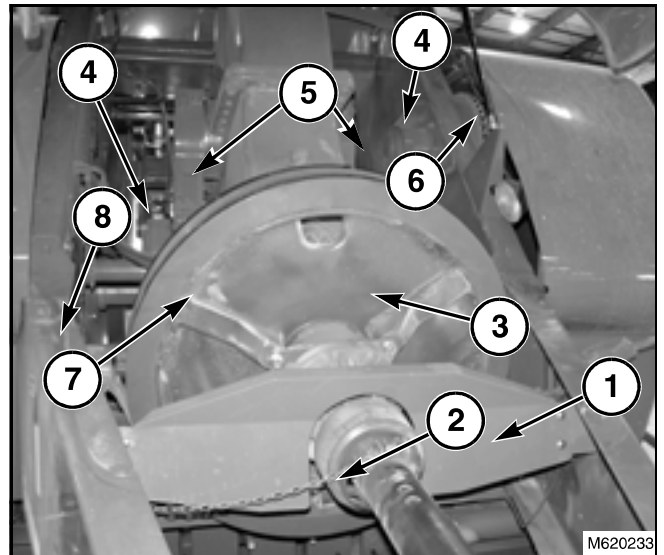

FIG. 2
FIG. 2: The main drive clutch is connected to the flywheel (1). The flywheel is connected to the pinion shaft of the gearbox by a special shearbolt (2). The gearbox is a double reduction gearbox (3) which directly drives the plunger (4) through the plunger crank arms (5) and the connecting rods.